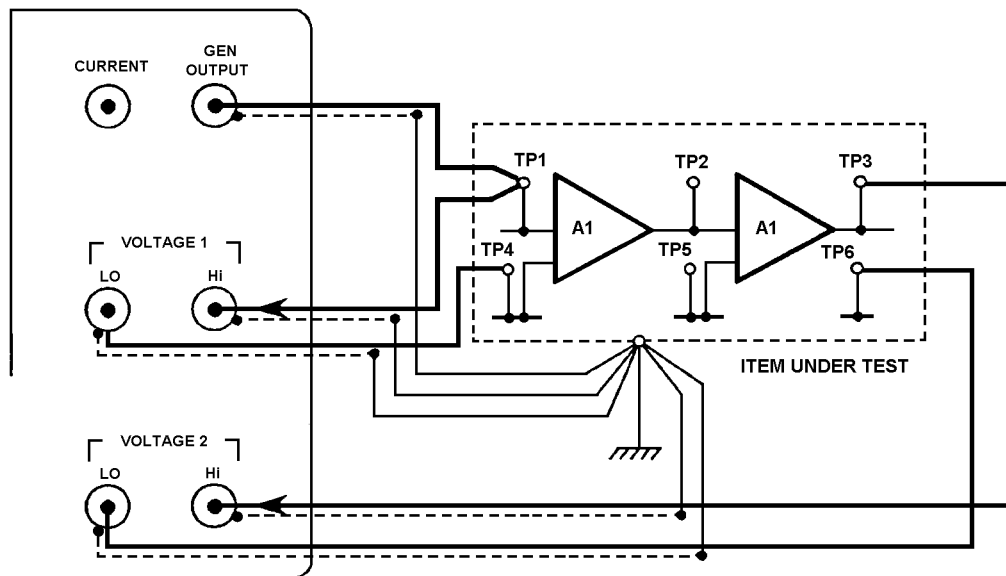

Figure 6.3 - Typical use of differential voltage inputs
- b) between a test point and signal ground, as in the example shown in Figure 6.3.